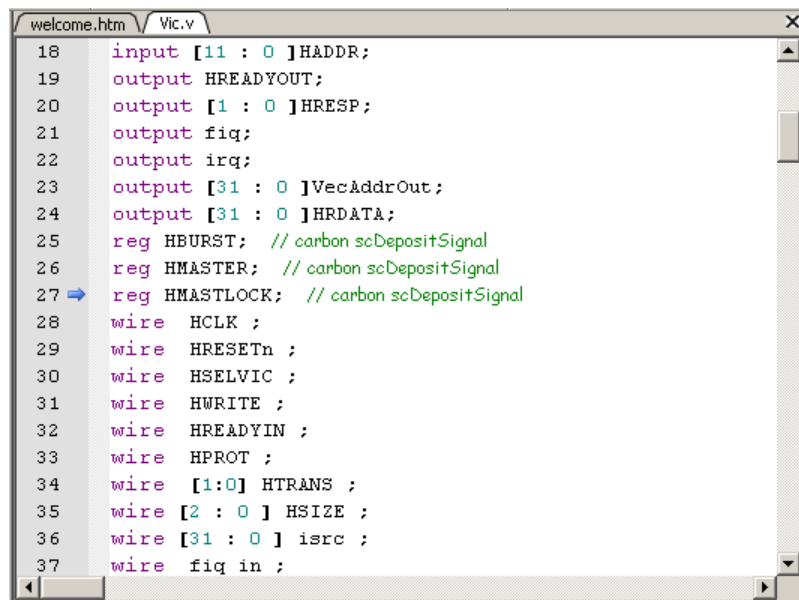

Figure 2-38 Error Location in RTL File
2. To navigate to the location of a source file error in the Main view window, double-click any error, warning, or message (Figure 2-38).